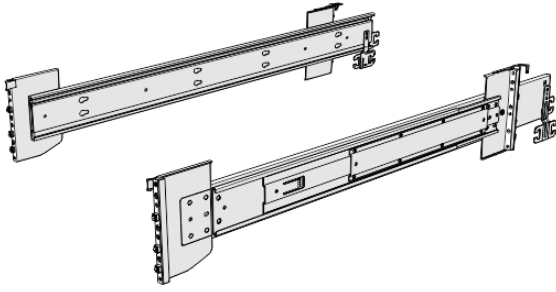

Figure 43. Support rails
1. Locate the hardware that is used to install the rails, including the M4xL6 and M5xL13 screws. Set the hardware, which is shown in Figure 43 on page 84, aside for use later in the installation process.